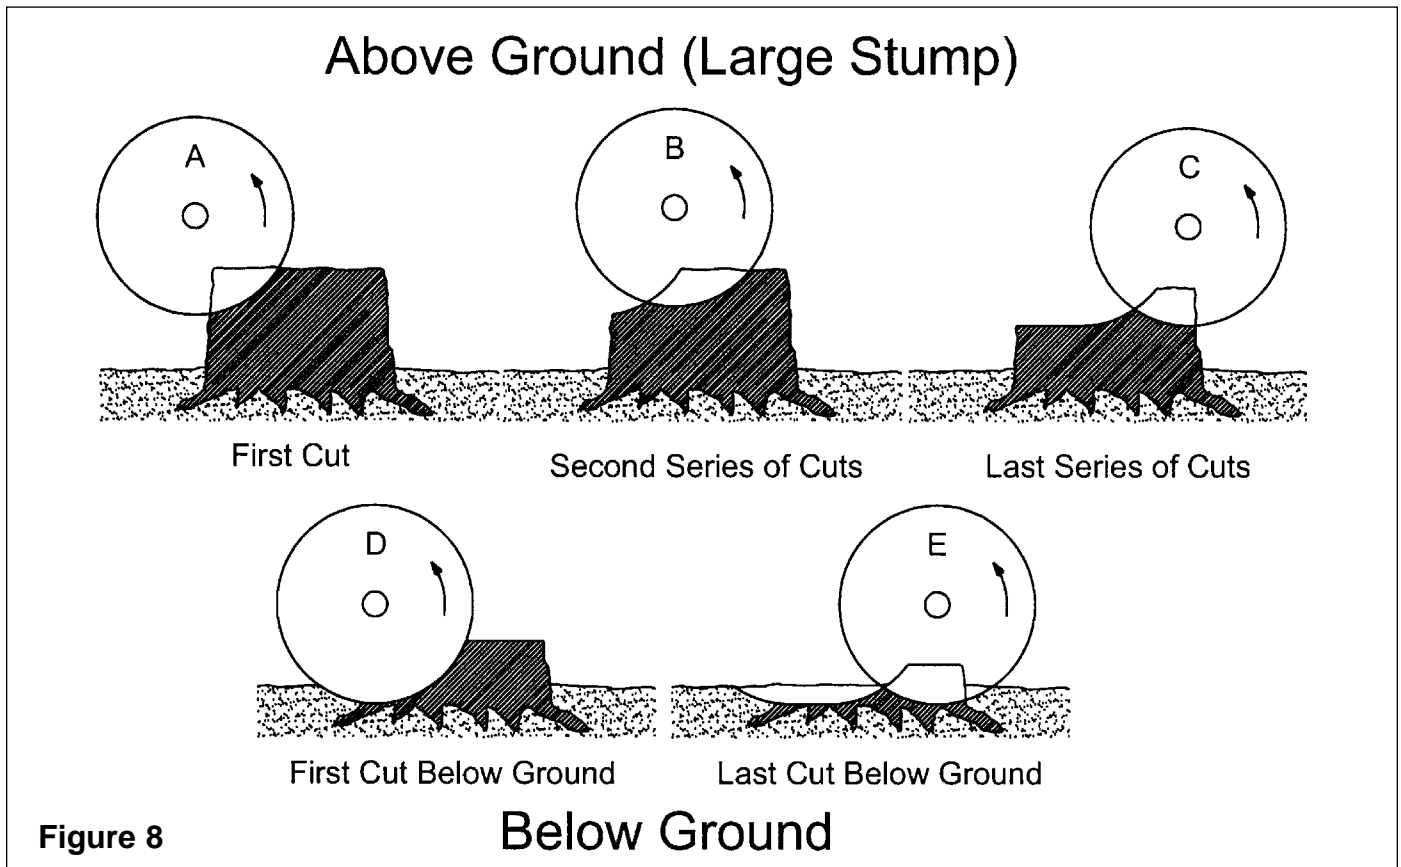

Figure 8
8. If the stump is large, raise the cutter wheel, slow the tractor engine rpm, raise the 3 pt. hitch slightly (so unit foot is off the ground) and move the stump grinder 6" to 8" (15 to 20 cm) further into the stump. Lower the 3 pt hitch, raise the tractor PTO rpm, and repeat previous cutting procedures. (See figure 8).
Always start cutting the side of the stump facing the tractor, when this part is cut down 10-12 inches from the top of the stump, move toward the stump 8-10 inches and repeat the process. If there is still a portion of the stump at near original height, move again toward the stump and repeat the cutting process. (See figure 8.)